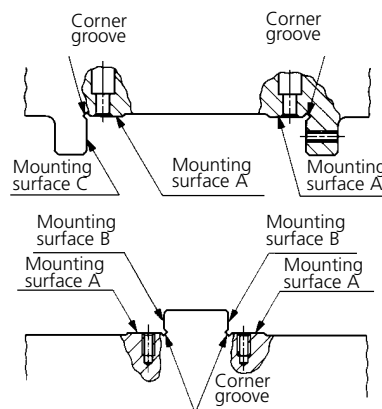

Fig. 2 Mounting surfaces for CRW type
- After closely fitting the way to B surfaces (see Fig.2), tighten the mounting screws to the prescribed tightening torque.
- After closely fitting the ways at the fixed side to C surfaces (see Fig.2), tighten the mounting screws at the fixed side to the prescribed tightening torque.